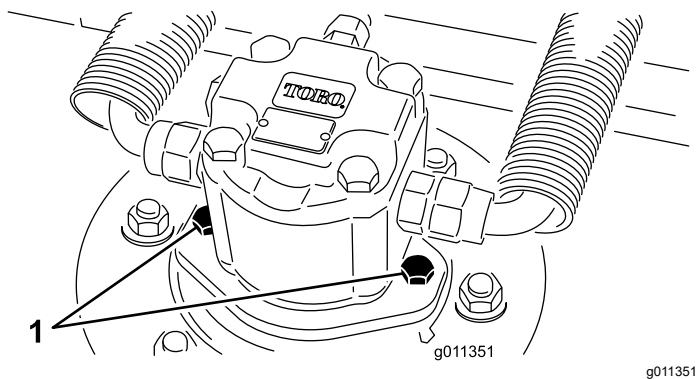

Figure 10
2. Disconnect and remove the hydraulic motor from the deck (Figure 10). Cover the top of the spindle to prevent contamination.
4. Install the hydraulic motor to the deck (Figure 10). Make sure that the O-ring is in position and not damaged.